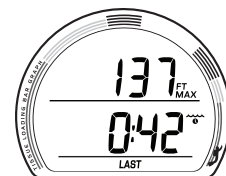

Fig. 9 - NORM/TECH
**NORM/TECH SURF ALT 1**, information includes (Fig. 9):